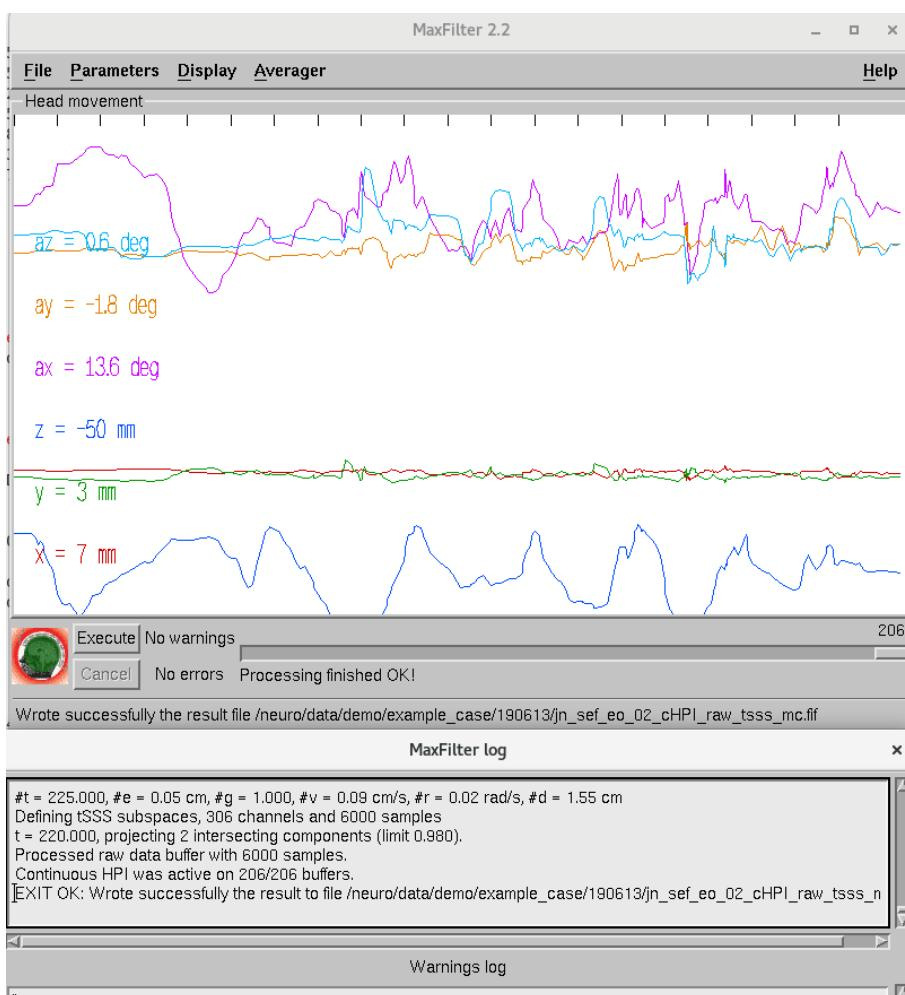

Figure 18: *MaxFilter* head position display and log window for the example case of Figure 17.
- When head positions are estimated for movement compensation, observe the head positions by selecting **Display ->Head positions... (Alt-d + h)** (Figure 18).